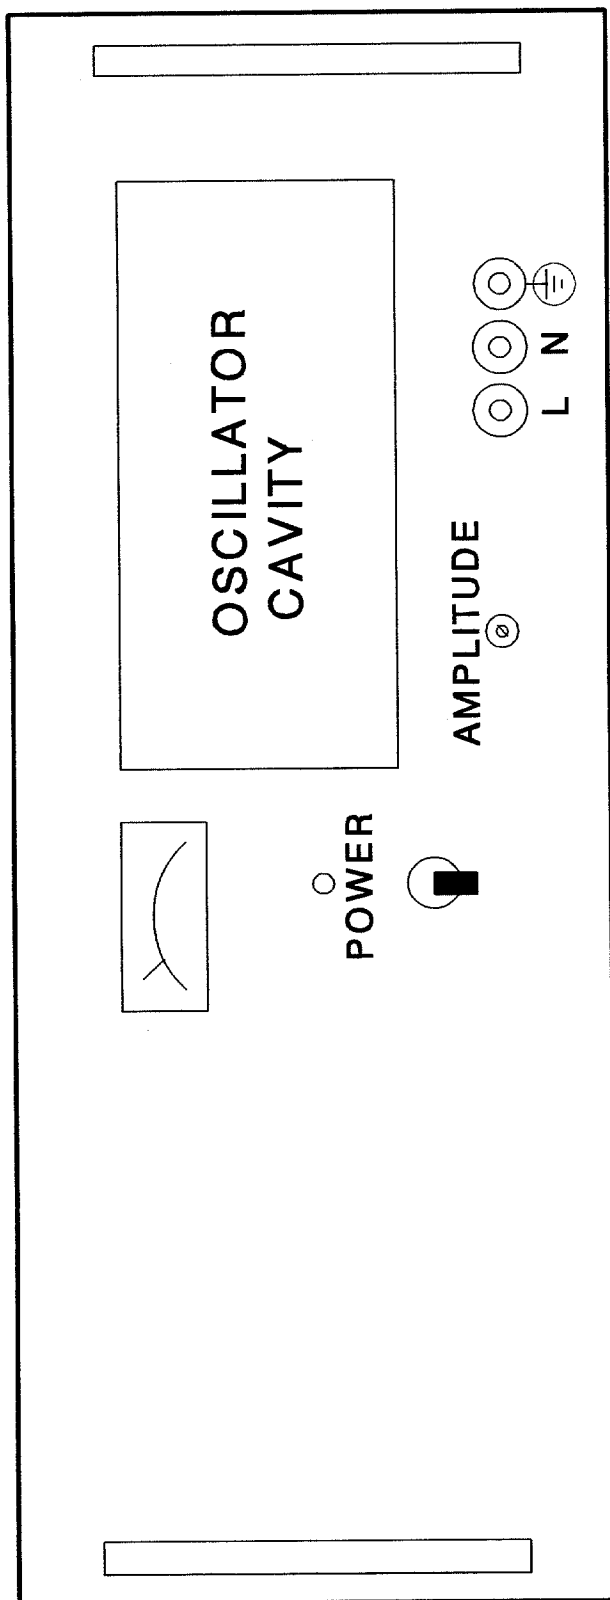

Figure 2-8. Model 1001SLE (Front View)
1. Before installing the power source, verify that the input and output voltage ranges are compatible with the available utility power and the output voltage application. Refer to Figures 2-8 and 2-9, Table 2-1, and the unit serial number tag for model number information.